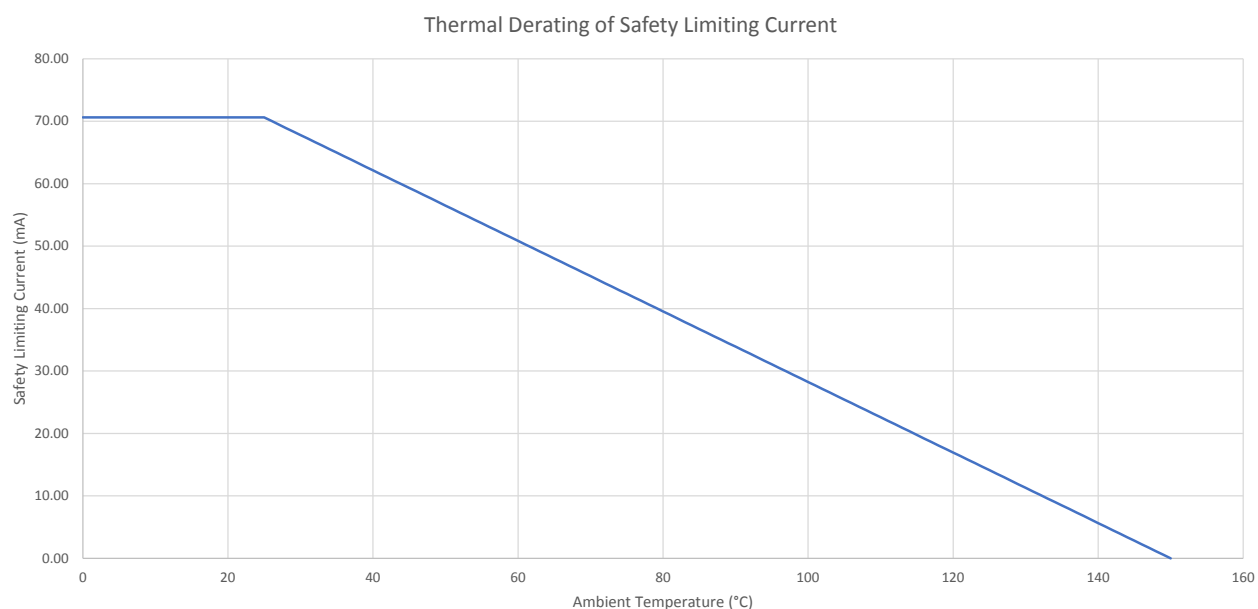

Figure 4.2. SOIC-14 WB Thermal Derating Curve, Dependence of Safety Limiting Values
1. Maximum value allowed in the event of a failure. Refer to the thermal derating curve in Figure 4.2 SOIC-14 WB Thermal Derating Curve, Dependence of Safety Limiting Values on page 16.